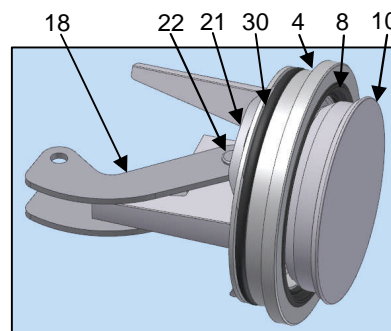

Fig. 12
5. After the pin set has been removed, remove poppet assembly from the body bore. Carefully remove the Nosepiece (4) and Wave Spring (21). Do not nick the bore in the process. (See Fig. 12)
6. If replacing O-Ring (30) & Nose Piece Seal (8). Without scratching the seal seats on the Nosepiece (4), use a pick to carefully remove Nose Seal (8) and the O-Ring (30). If not replacing O-Ring & Nose Piece Seal Move to step 8.
7. Using a solvent, thoroughly clean the bore and nosepiece seal grooves. Make sure all grit is removed. Carefully assemble New O-Ring (30) & Nose Piece Seal (8) into the Grooves. Apply Parker Super Lube (or equivalent) to outside of Nose Piece Seal once assembled.